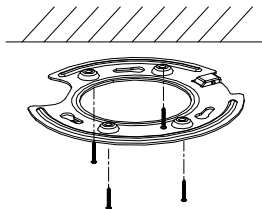

Figure 2-48 Fix the Base Plate
2. Fix the base plate onto the in-ceiling bracket with the four screws in the package (supplied). Make sure that the cable holes of the base plate are aligned to the cable holes of the bracket, as shown in Figure 2-48.